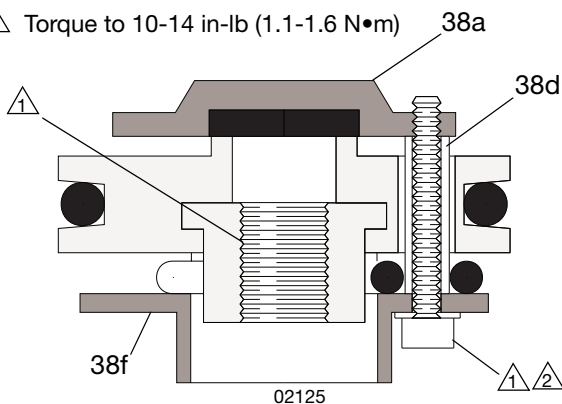

FIG. 12
- If any valve plate spacers (38d) are damaged, replace all three to maintain the correct clearance between the valve plates (18a,18f) and the seats. See FIG. 12.